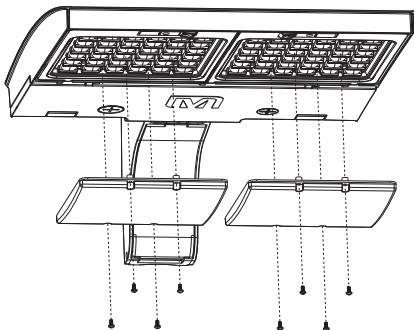

FIG. 1
1. Place the visual comfort lens on the LED lens. (See Fig. 1)